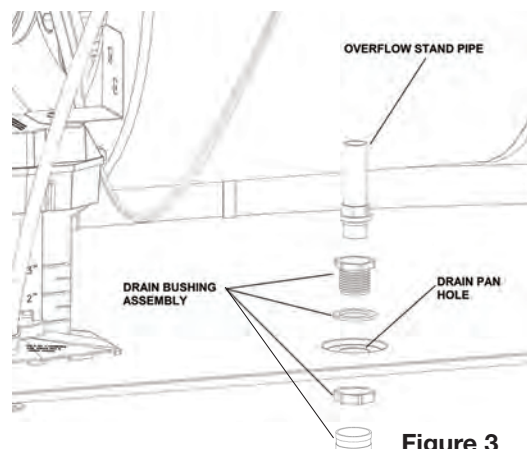

Figure 3
Next install the overflow stand pipe and drain bushing. Attach the stand pipe, drain bushing, washer and brass cap in the hole in the drain pan in the order shown in **figure 3**. **NOTE:** Verify that the washer is correctly in place before use.
- Remove the brass cap and drain assembly as shown in **Figure 3**
2. Remove drain bushing assembly as shown in figure 3
1. Remove drain bushing assembly as shown in figure 3